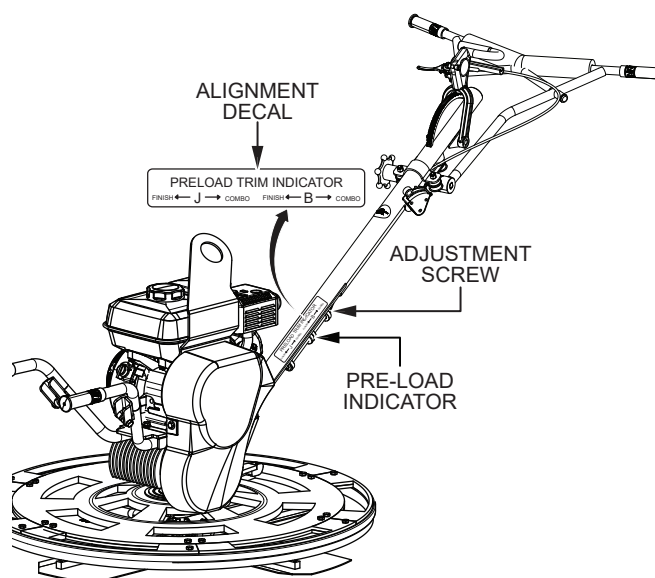

Figure 16. Spring Pre-Load Adjustment
- Locate the spring pre-load adjustment screw (Figure 16) on the underside of the handle tube.
- An alignment decal (Figure 16) has been placed on the side of the handle tube to assist the user with adjustment of the Quick Pitch™ handle spring. Turn the adjustment screw until the sliding pre-load indicator aligns with the letter 'J' on the decal.